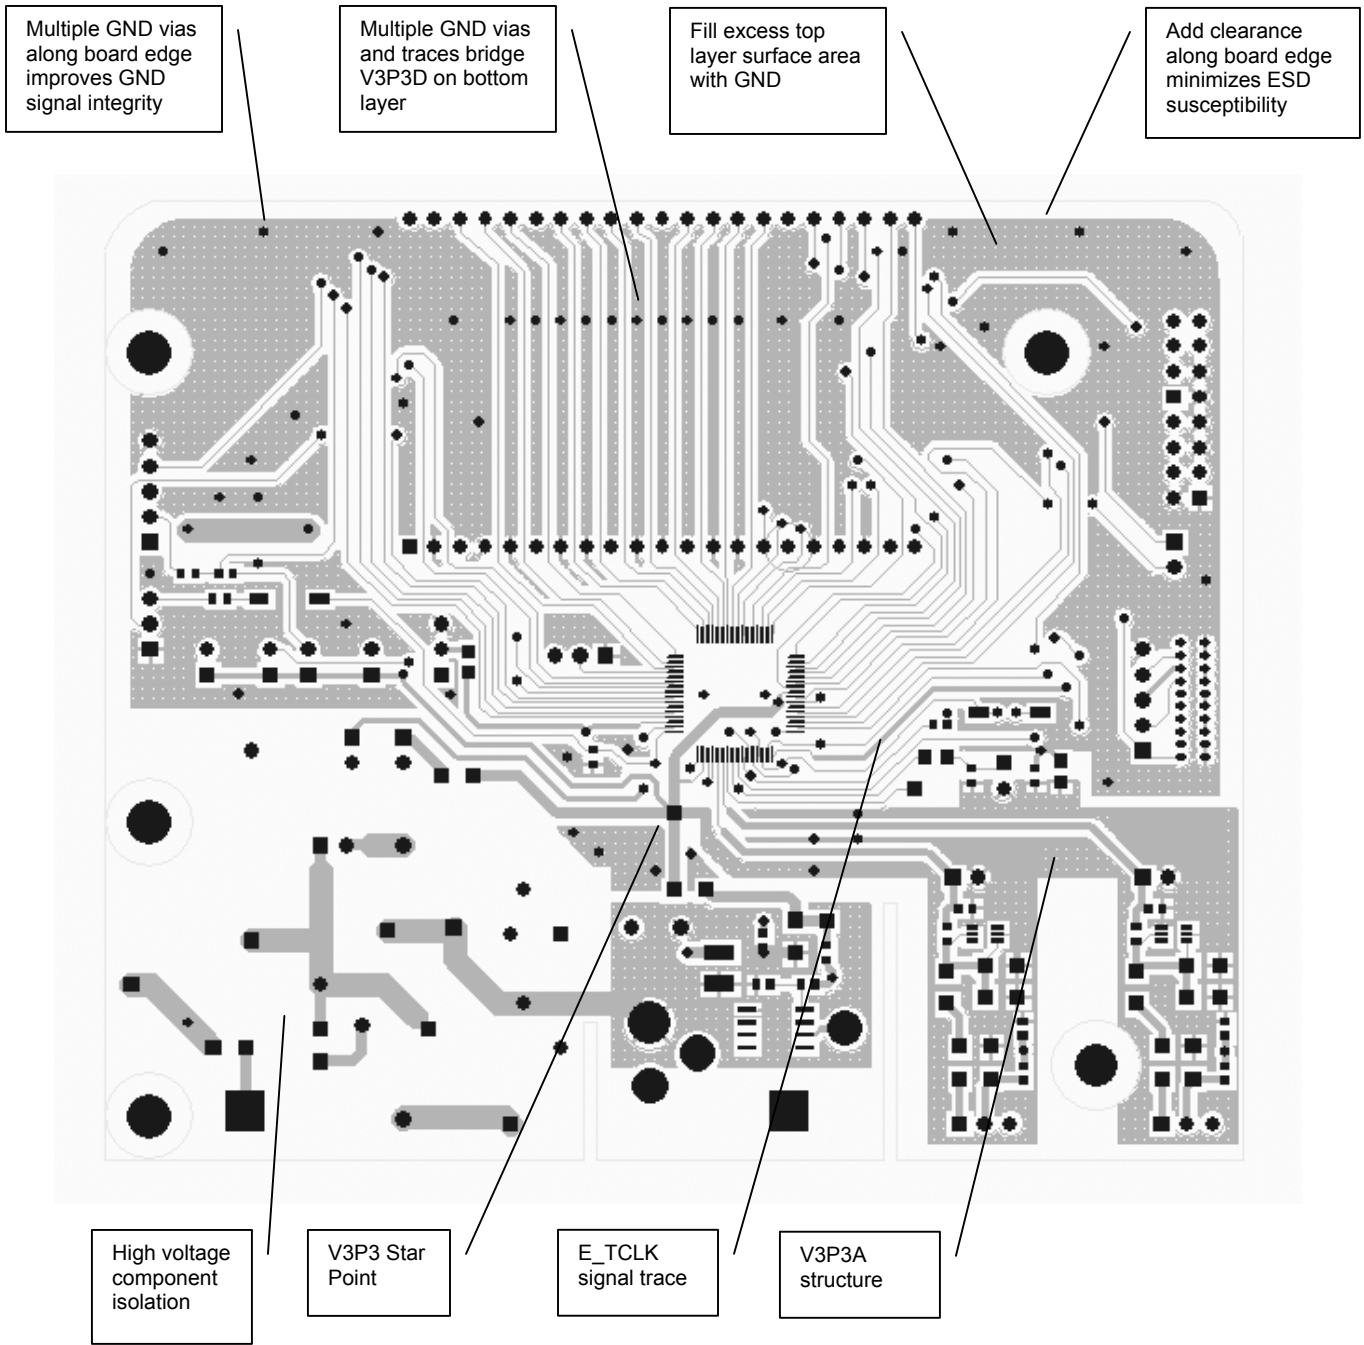
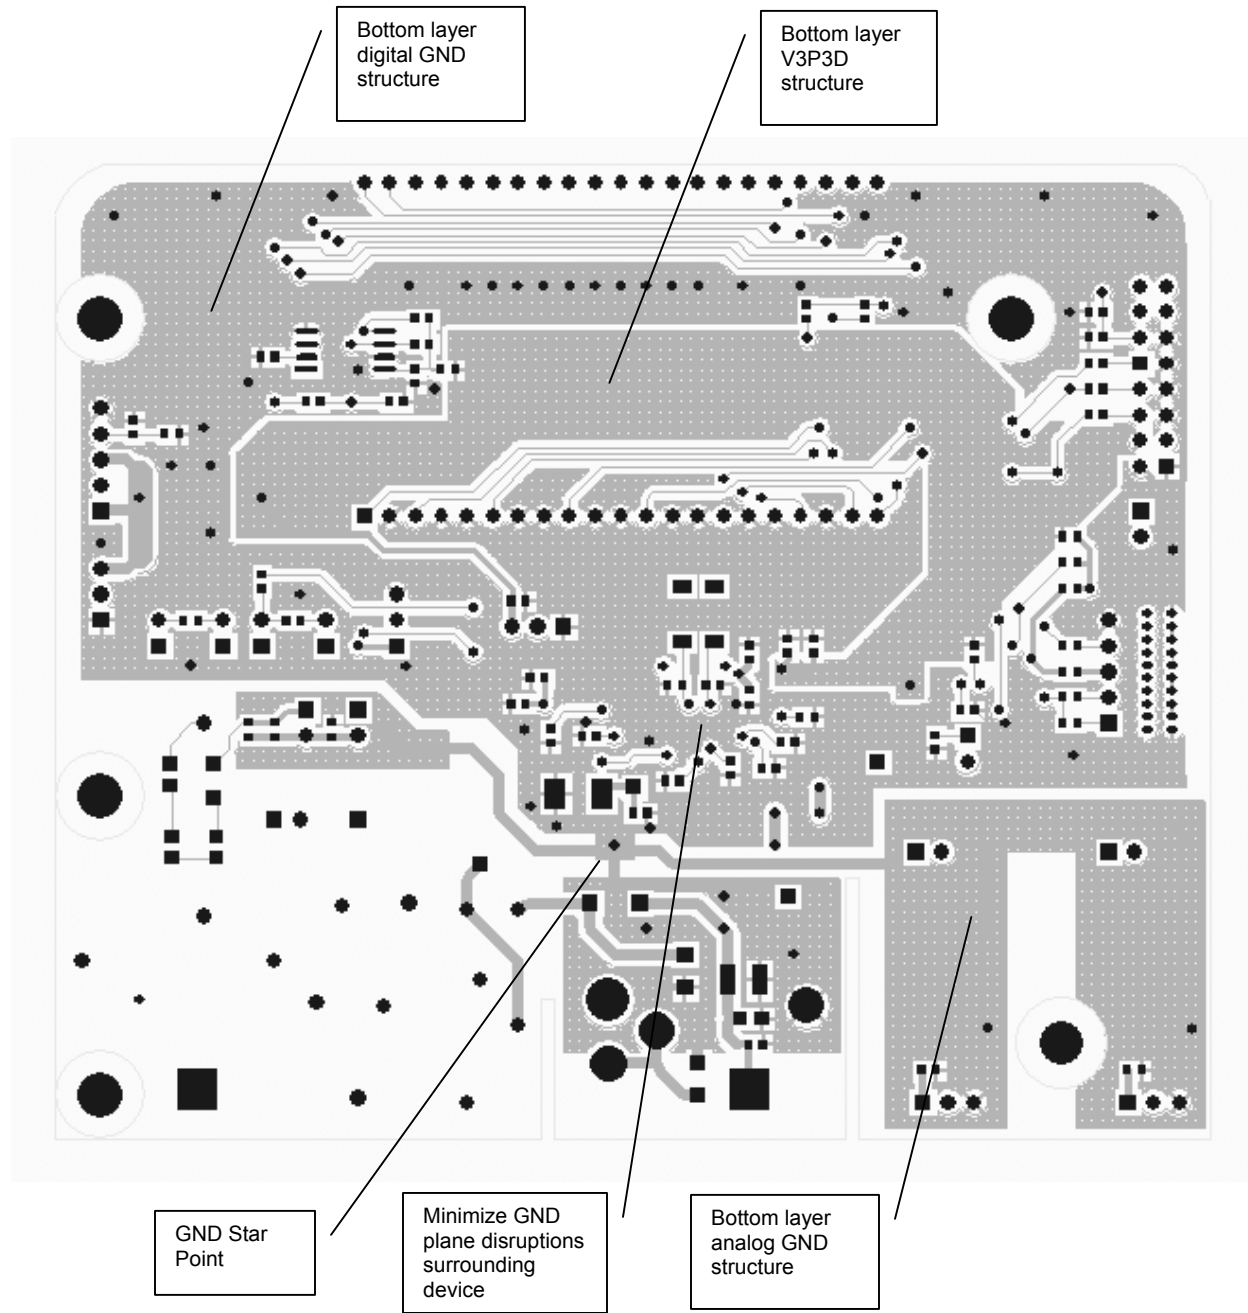

Figure 10: Top Copper Layer
Figure 11: Bottom Copper Layer
- Figure 10 and Figure 11 provide examples of a two-layer printed circuit board.